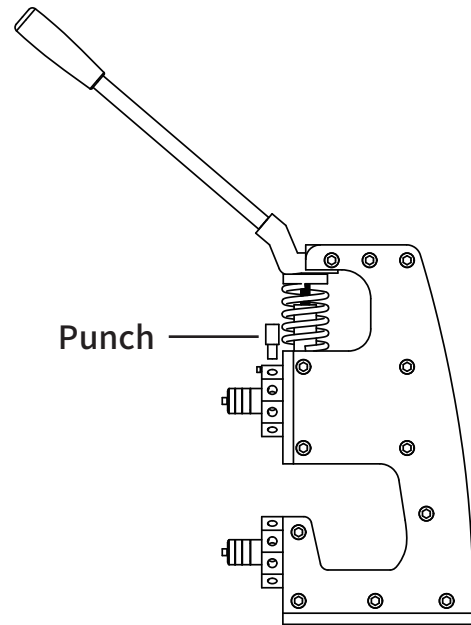

Fig.2
2. Place the punch into the corresponding position on the punch turntable(Fig. 2);